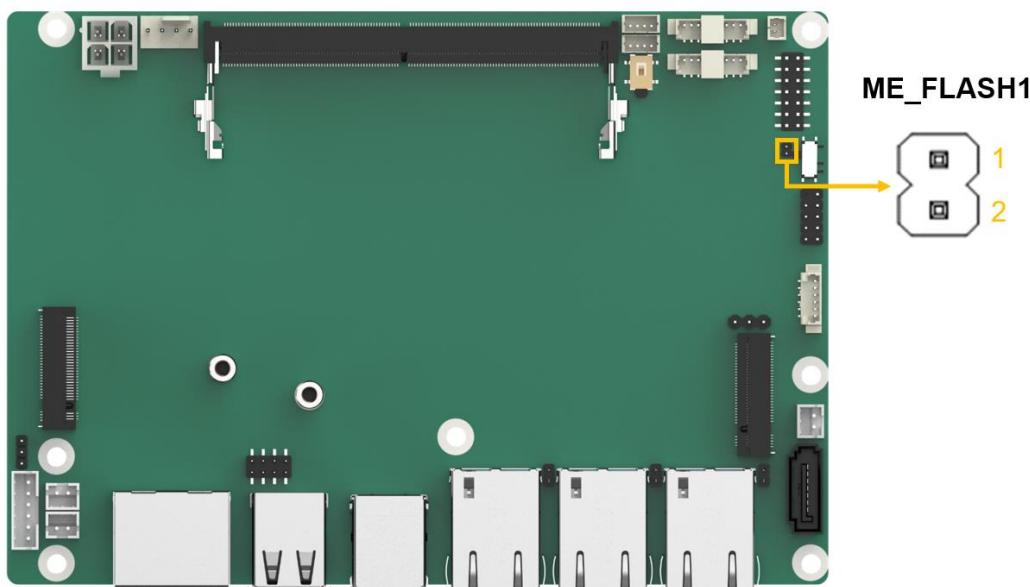

Figure 4-11: Flash Descriptor Security Override Jumper Location
- CN Location:** See Figure 4-11